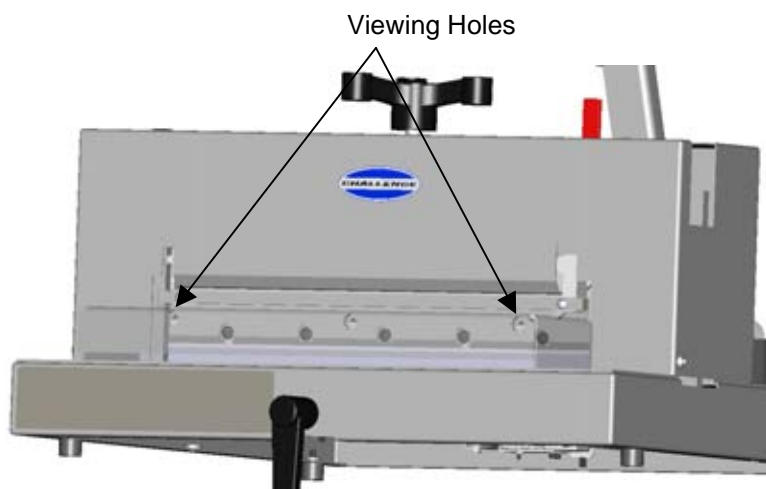

**Figure 10**
3. Loosen the gib screw jam nuts on each side (Figure 10).